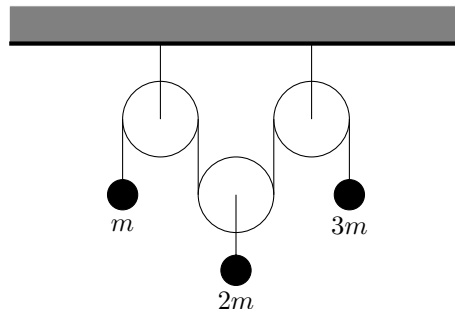

Figure 3: A pulley system with masses  $m$ ,  $2m$ , and  $3m$ .
2. Determine the acceleration of the masses in Figure 3 in terms of  $g$ .